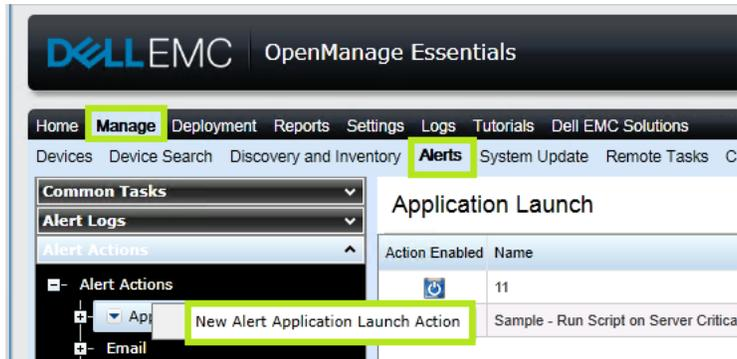

Figure 16 Creating A New Alert Application Launch Action
1. Click **New Application Launch Action** as shown in Figure 16, type a name.